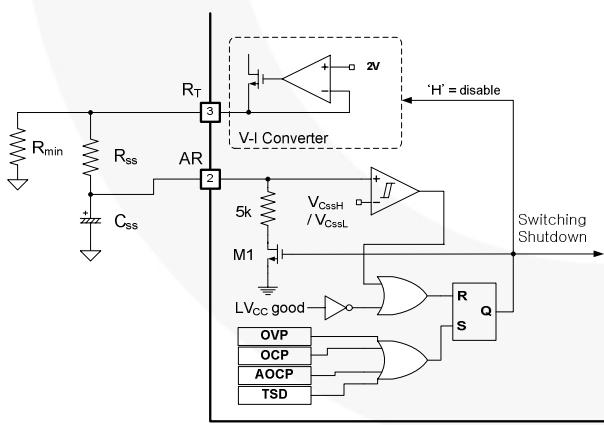
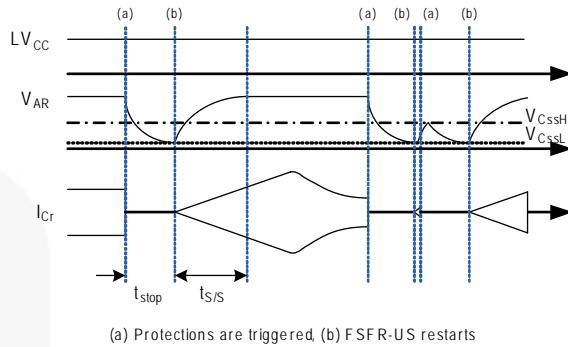

Figure 20. Internal Block of AR Pin
Figure 21. Self Auto-Restart Operation
4. Self Auto-Restart: The FSFR-US series can restart automatically even though any built-in protections are triggered with external supply voltage. As can be seen in Figure 20 and Figure 21, once any protections are triggered, M1 switch turns on and V-I converter is disabled. C_{SS} starts to be discharged until V_{CSS} across C_{SS} drops to V_{CSSL} . Then, all protections are reset, M1 turns off, and V-I converter resumes at the same time. The FSFR-US starts switching again with soft-start. If the protections occur while V_{CSS} is under V_{CSSL} and V_{CSSH} level, the switching is terminated immediately, V_{CSS} continues to increase until reaching V_{CSSH} , then C_{SS} is discharged by M1.